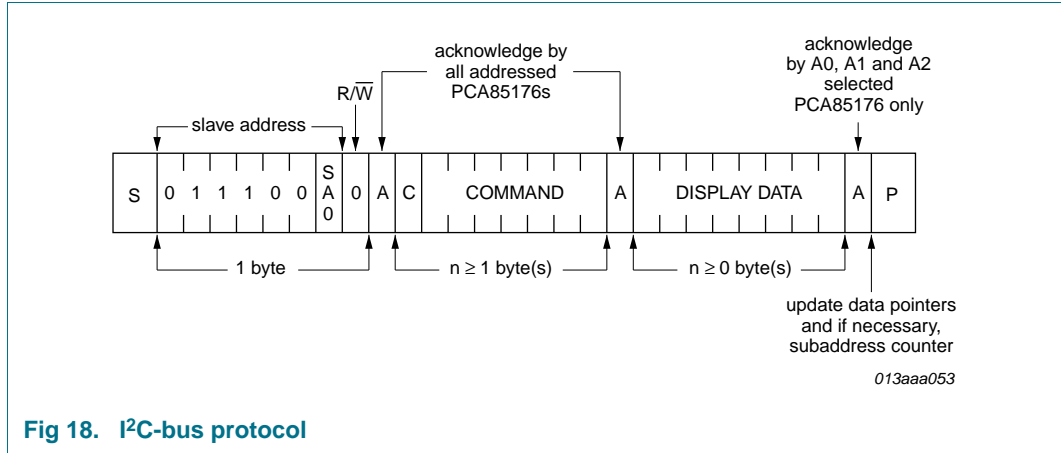

Fig 18. I2C-bus protocol
The I2C-bus protocol is shown in Figure 18. The sequence is initiated with a START condition (S) from the I2C-bus master which is followed by one of two possible PCF85176 slave addresses available. All PCF85176 whose SA0 inputs correspond to bit 0 of the slave address respond by asserting an acknowledge in parallel. This I2C-bus transfer is ignored by all PCF85176 whose SA0 inputs are set to the alternative level.